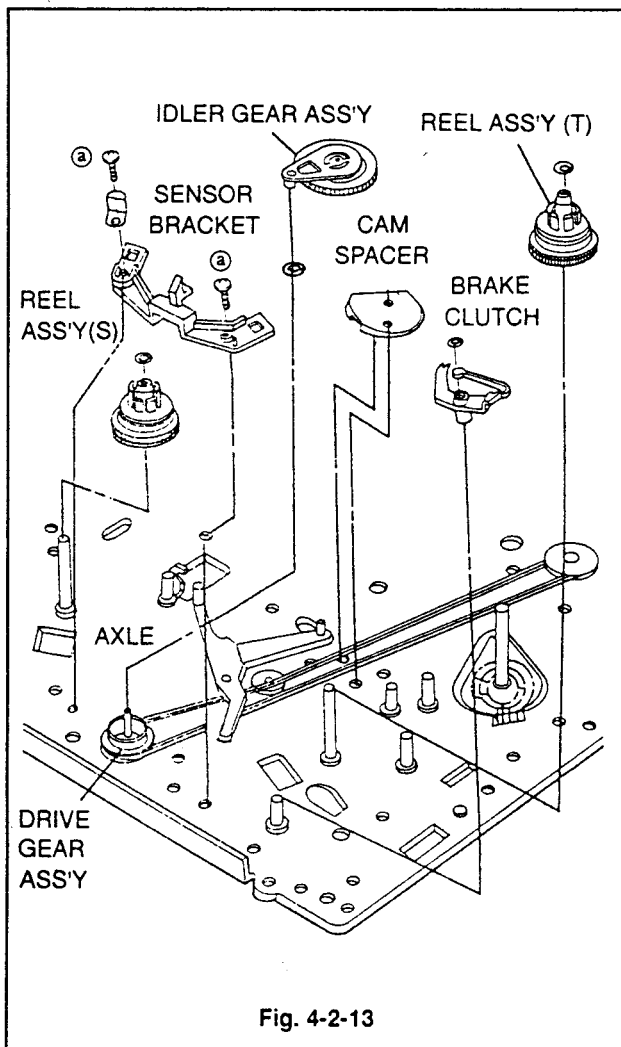

Fig. 4-2-13
13-1. Disassembly (Fig. 4-2-13)
13-2. Reassembly (Fig. 4-2-13)
- (1) Stick the slide washer on the Axle and apply the oil 1/2 drop on the Axle. (Fig A)
- (2) Assemble the conversion Gear Ass'y on the Axle and set the stop washer.
- (3) Assemble the slide washer on the Axle and apply the oil 1/2 drop on the Axle. (Fig B)
- (4) Assemble the Drive Gear Ass'y on the Axle.
- (5) Stick the Idler Belt on the Axle and apply the oil 1/2 drop on the Axle.
- (6) Assemble the Idler Belt on the Axle and set the stopper washer.
- (7) Assemble the Timing Belt. Hook the Timing Belt on the lower Gear of Conversion Gear Ass'y and assemble the vertical port (no teeth part) on the lower teeth part of Drive Gear Ass'y by hooking on the vertical part of Idler Belt. (Fig. 4-2-13) Apply the oil on the teeth of Timing Belt.
- (8) Assemble the Lever Brake Ass'y on the Axle and set the stopper washer, and then fit the Guider Hole to the cognition hole by rotating the Lever Brake Ass'y.
- (9) Stick the Lever Brake, on the Axle and set the Stopper Washer. At this time, assemble so the part "B" on the Lever Brake Ass'y is to be inserted in the Mouth part "A" on the Brake Reel Ass'y. (Fig. 4-2-13)